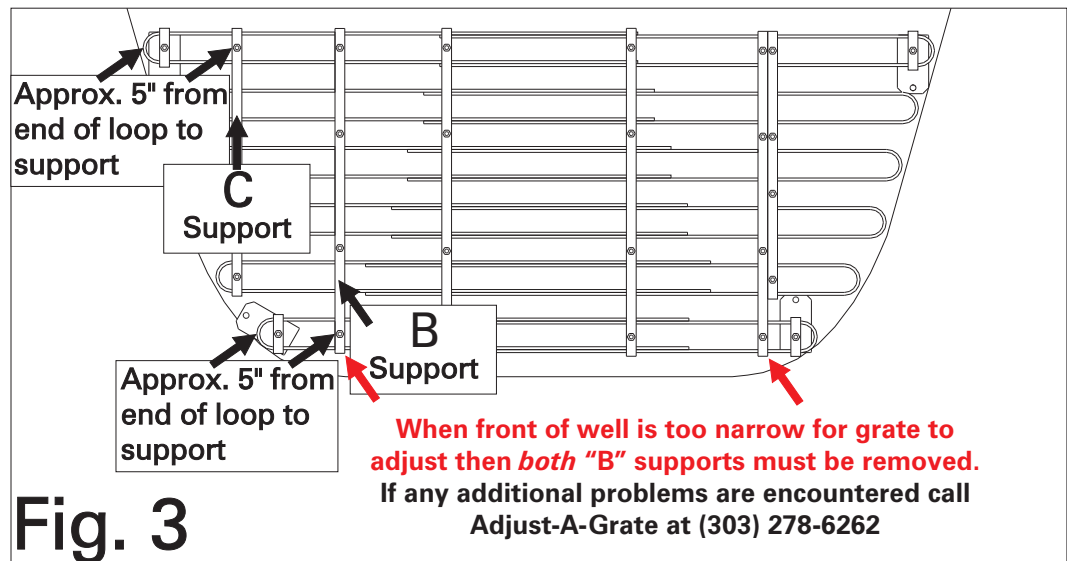

Fig. 3
6. Slide the left C support out to about 5" from the end of the rear loop (or as close as possible if obstructed by loop toward front) and tighten. Now slide the left B support out to about 5" from end of front loop and tighten (SEE FIG. 3). Repeat this step on right side B&C supports.